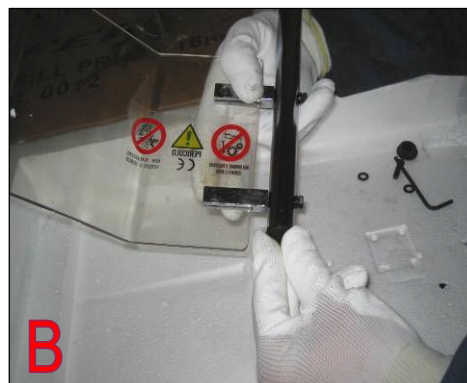

Figure 7 – Application of the brackets (A) – Insert the guard (B).
- Attach the mounting brackets to the rod and tighten the screws Figure 7/A;
- Place the plexiglass shield in the slots of the brackets and tighten the locking screw Figure 7/B;